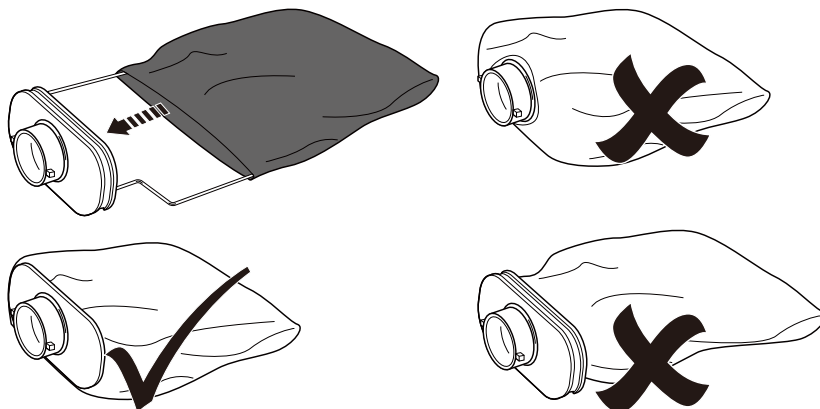

Fig. 11
- > Re-fit the dust bag (6a) to the connector (6c), ensuring that the elasticated collar is correctly located (Fig. 11) and re-attach it to the product.